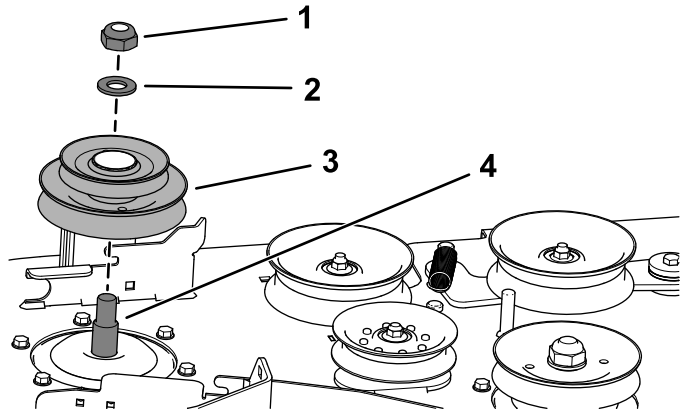

**Figure 27**
3. Use a wrench (1-1/2 inches) to hold the spindle shaft, as you remove the locknut (3/4 inch) and washer from the spindle shaft (Figure 27).